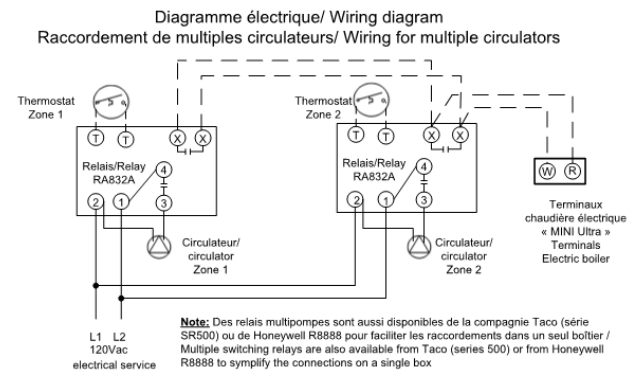

Figure 7 : Zoning with Multiple pumps
- **If the piping installation is made as shown on fig.7 without a three-way valve:**